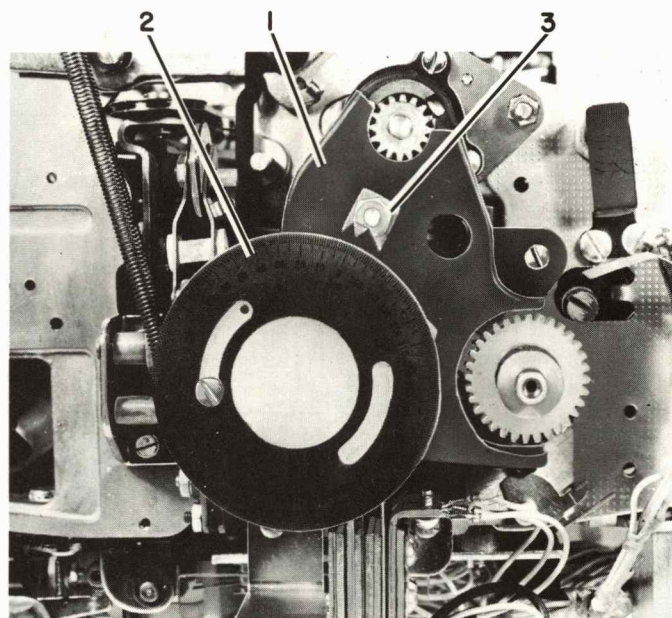

FIGURE 6. Belt Replacement
2. Remove the degree-wheel pointer (#3, Figure 6).
3. Remove the degree-wheel (#2, Figure 6).
4. Remove the gear guard (#1, Figure 6).